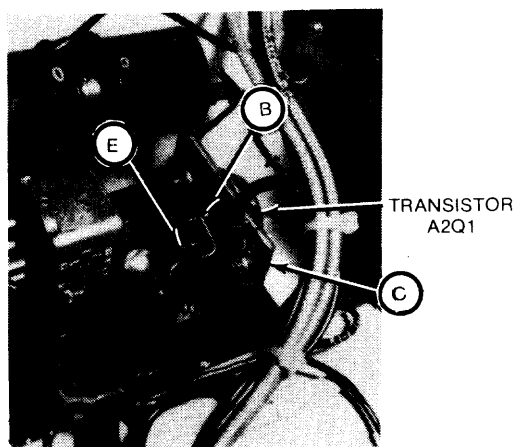

FIGURE 4-20. LOCATION OF TRANSISTOR A2Q1
10. Check power transistor A2Q1 and replace if necessary (see Figure 4-20).